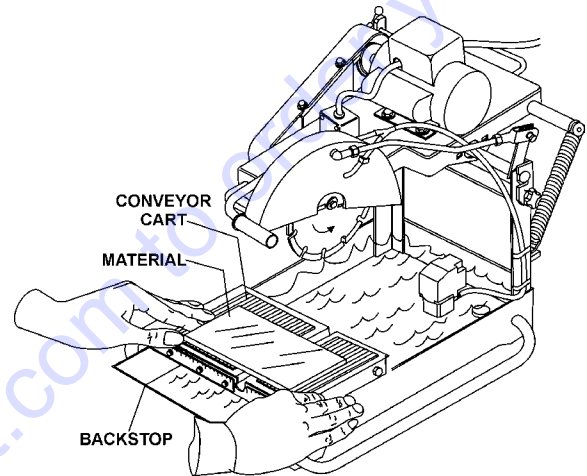

Figure 17. Material Placement
1. Place the material to be cut (Figure 17) on the conveyor cart against the backstop.